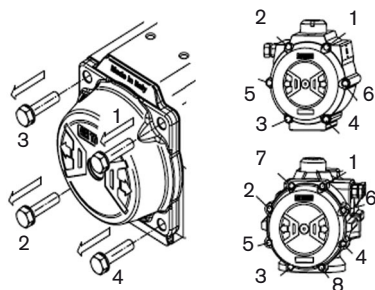

Fig. 9: Installation of the covers
- Insert the cover screws (Pos. 13) and tighten according to the sequence (see Fig. 9:).